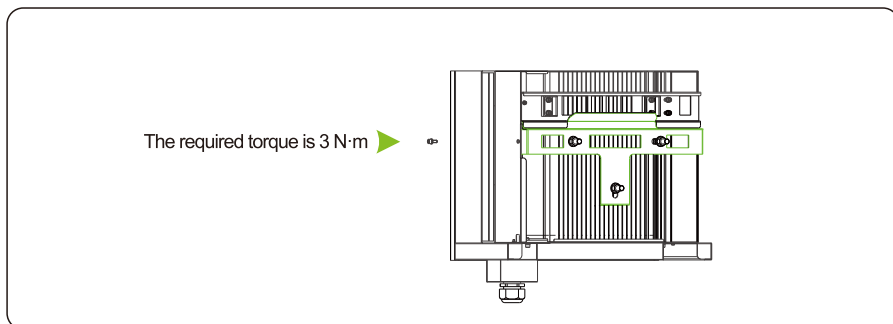

Figure 4.11 Securing the inverter
Step 3 Tighten the screws to secure the inverter on the rear panel, as shown in Figure 4.11.